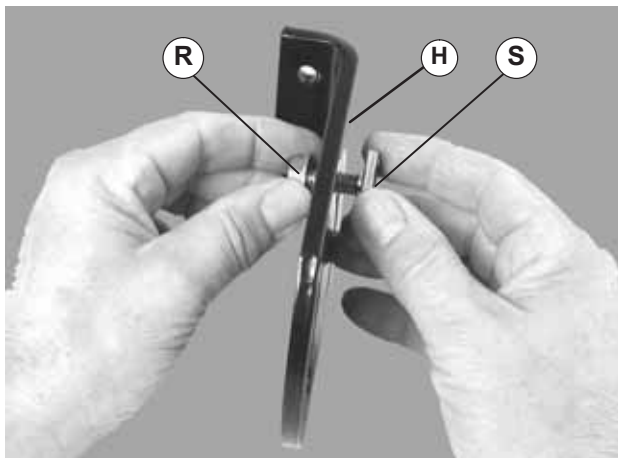

Figure 6
8. Attach nut (Figure 6, item S) and flange head hex screw (R) to each slot of conveyor mounting bracket (H).